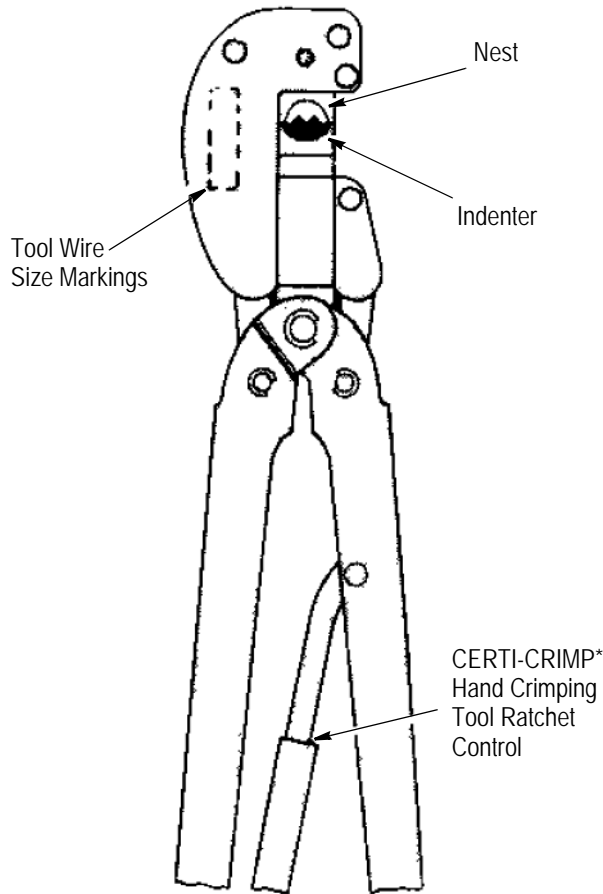

Figure 1
2. Open crimping dies by closing handles until CERTI-CRIMP hand crimping tool ratchet releases. See Figure 1. Note that once the ratchet is engaged, handles cannot be opened again until they are fully closed.